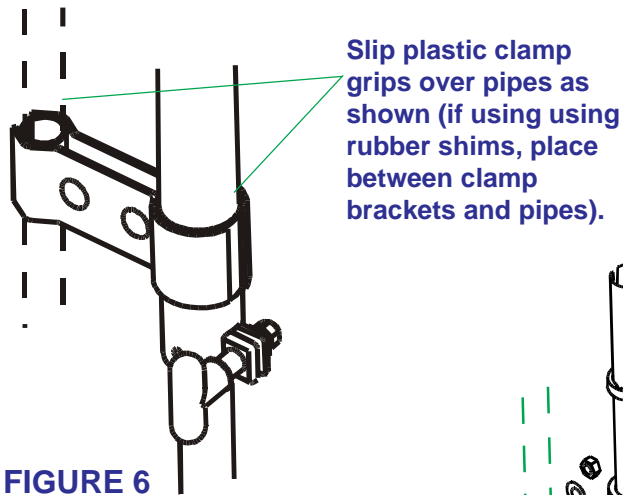

FIGURE 6
STEP 9. Slip the small plastic shims over the handrail/ladder and the large plastic shims over the MM-3084 pipe. See Figure 6.
NOTE: If MM-3002 comes with eight (8) rubber shims instead of the 4 plastic clamp grips. Insert rubber shims between clamp brackets and MM-3001 pipe and handrail/ladder. See Figure 6.
STEP 12. Adjust azimuth (direction) for best picture then tighten azimuth clamp to keep pipe from rotating. See Figure 6.